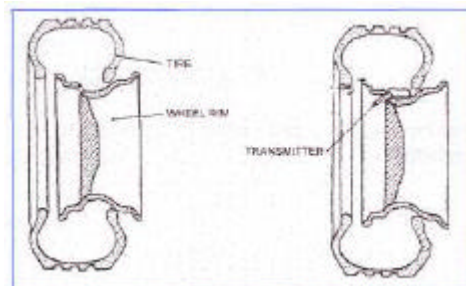

Figure 1 - Tyre, rim and transmitter orientation
- 2) Mount transmitter valve through rim hole as shown in Figure 1. Both holes in the sensor case should face towards the inside of the tyre. Hand start and then slowly torque the 12mm valve retaining nut to 38 inch pounds (7.25 Nm +/-18%).